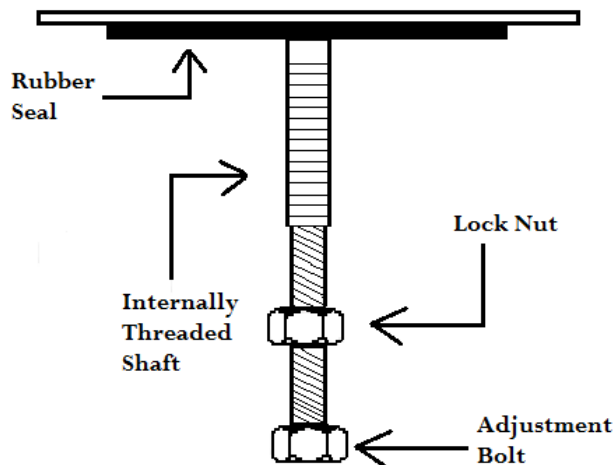

Fig 3B
- 3) Loosen the lock nut as shown in Figure 3B